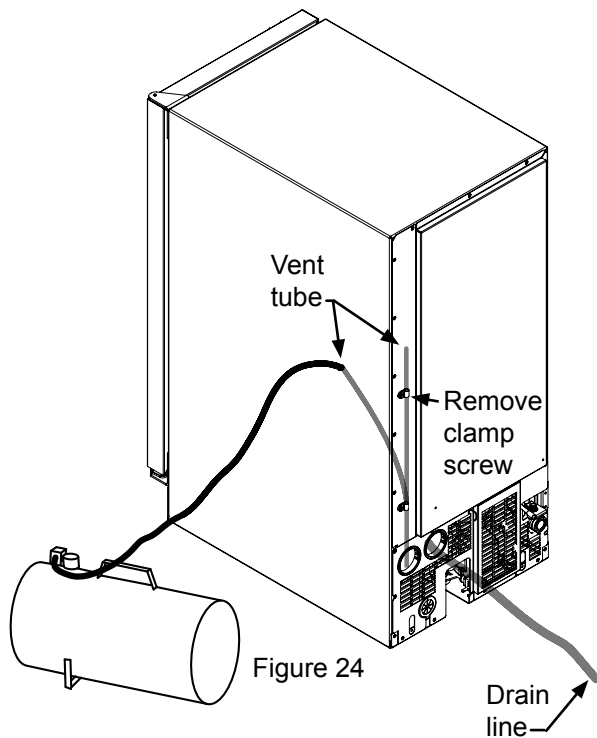

Figure 24
15. Apply air pressure (approximately 10 psi) to the end of the vent tube which will purge the remainder of the water from the drain pump and the drain line. (See Figure 24).